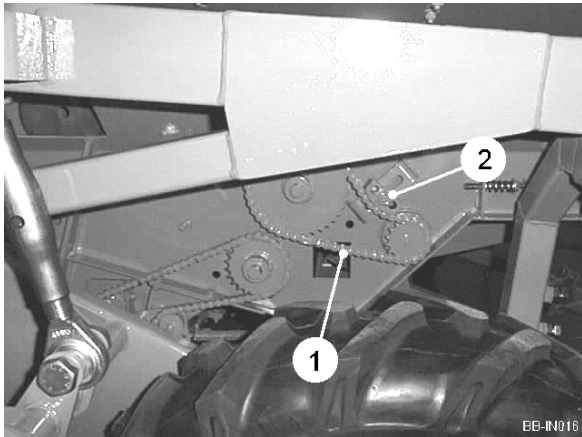
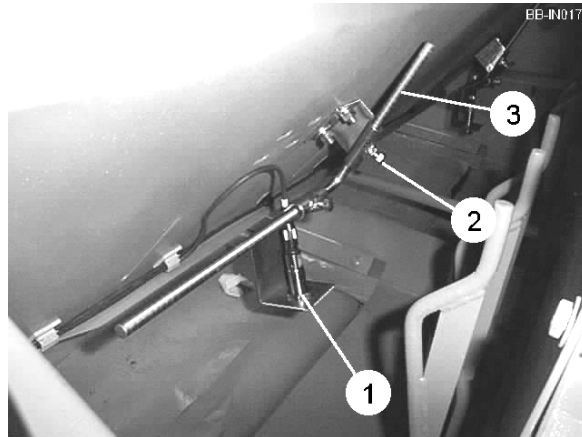

Fig 15
Fig 16
The feed belt drive chains (item 1, figure 15) are each fitted with a tensioner (item 2, figure 15). Adjust the chain tension to be tight enough to give positive drive without undue stretching. The feed belt motors are actuated by the sensors (item 1, figure 16) situated between the belts and the feeding pockets. When the quantity of potatoes in one of the feeding pockets is so small that the distance between the sensor and the potatoes is more than 8cm (or the feeding pocket is empty), the sensor gives the relay an impulse.
Depending on the size of potatoes being planted, it may be necessary to alter the height of the sensor (item 1, figure 16) in relation to the feeding pocket. The sensor should be positioned higher for larger potatoes and lower for smaller potatoes. To adjust the height of the sensor, loosen the set screw (item 2, figure 16) and slide the support arm (item 3, figure 16) to the required position and re-tighten.